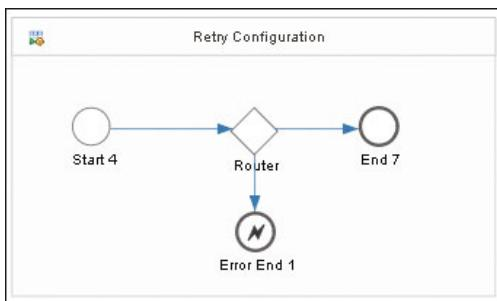

Figure 5.101 Configuration of a Local Integration Process
2. In the new **Local Integration Process**, add a **Router** from the **Message Routing**  shape between the **Start** and **End** events. Add an **Error End** event from the **Events**  shape below the newly added **Router** step. Connect the **Router** step to the **Error End** event, as depicted in Figure 5.101.